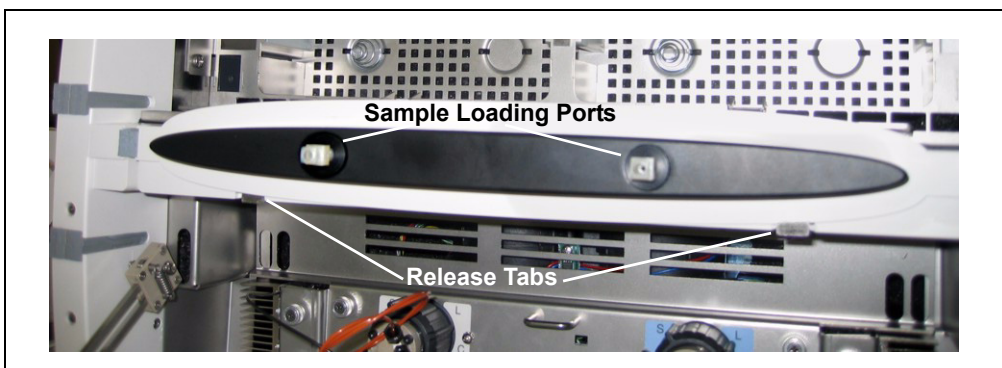

Figure 5-3. Sample Loading Ports and Release Tabs
2. Press the metal release tab under the sample loading port on the front of the DC (see Figure 5-3) and pull the port out the front of the DC.